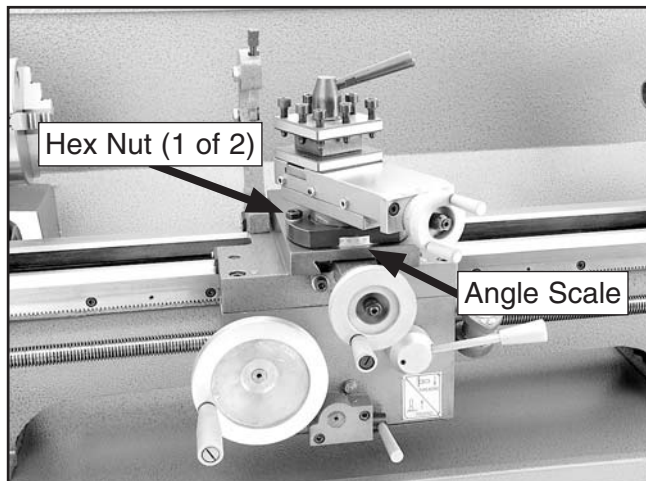

Figure 33. Compound slide angle controls.
1. Loosen the two hex nuts on either side of the compound slide (see **Figure 33**).
2. Use the angle scale shown in **Figure 33** and the indicator mark on the cross slide to rotate the compound slide to the correct angle for your operation.